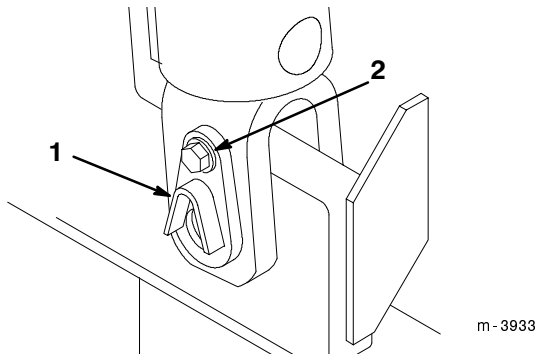

Figure 1
3. Remove the existing pivot pin from the bottom of a loader arm hydraulic cylinder (Fig. 1). Retain the pin for use when removing the tracks.